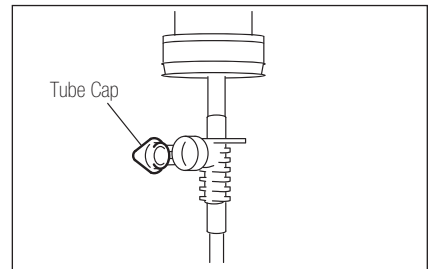

Fig. 14
- 3) Open the Tube Cap to supply air into the bottle. (Fig.14)